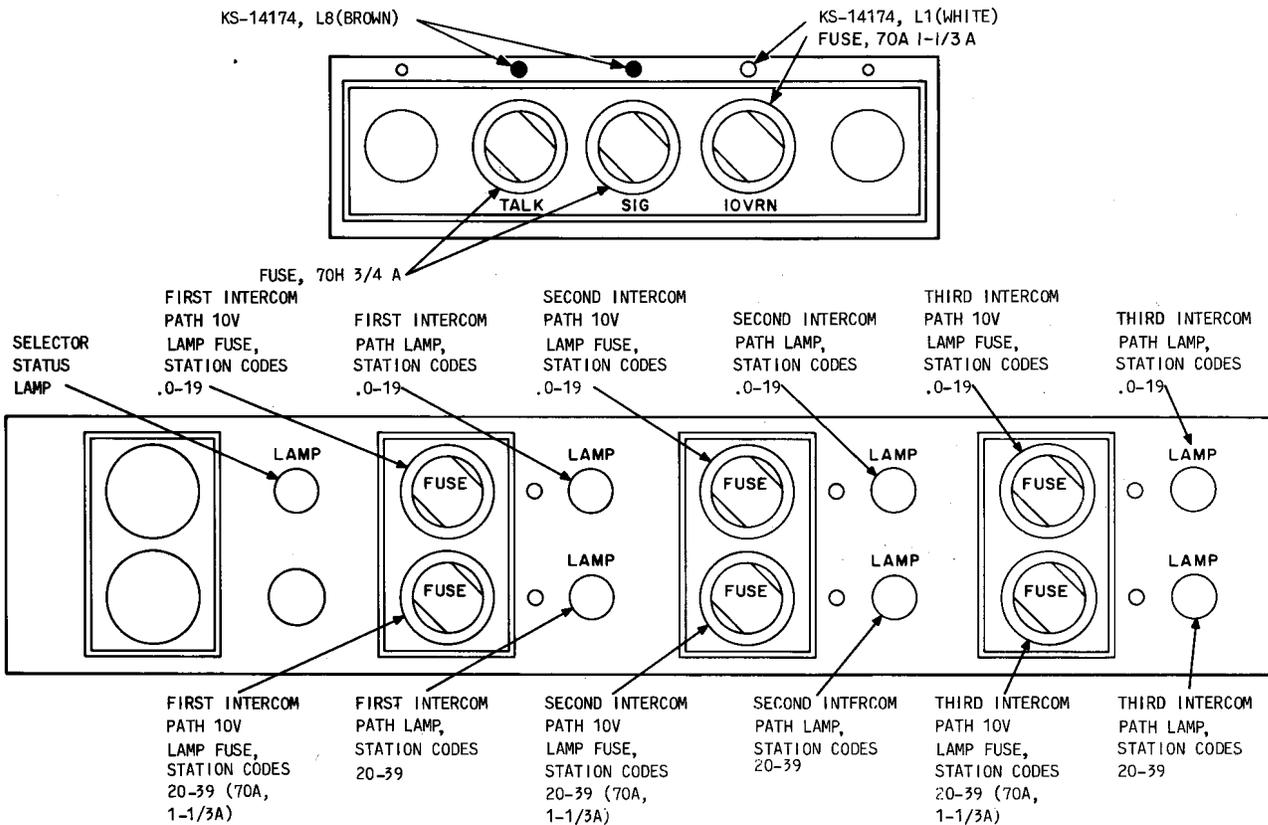

Fig. 3—Fuse and Lamp Arrangement, 626A Panel
**2.04** Power for the 626A panel is provided by an external power source and is fed to the panel by a plug-ended power cable. The power cable is located at the top of the panel above the KTU connectors. Fuses are provided in a fuse block, located just below the power cable, for the -24 volt talk, -24 volt signal, and the 10-volt alternating current interrupted ringing sources (Fig. 2 and 3). Located below the KTU connectors and above the terminal field are seven lamps and six fuses. One lamp is connected to the code selector (424- or 494-type KTU) lamp lead to indicate the status of the selector. The remaining six lamps and six fuses are connected to the path access circuit lamp leads on a 2-lamp/2-fuse per-path basis (Fig. 3).